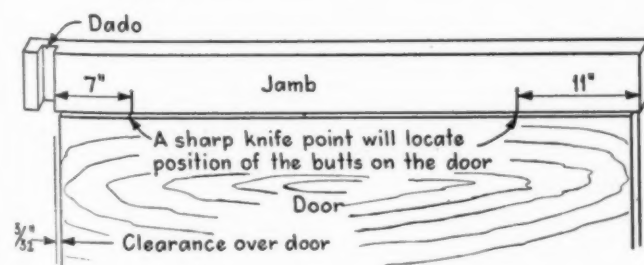

Fig. 2
5. Lay out the location of the butts on the jamb first. Then by laying the edge of the jamb on the edge of the door, allowing $\frac{3}{32}$ " for clearance on top, transfer the hinge location to the door edge by a sharp knife mark. See fig. 2.